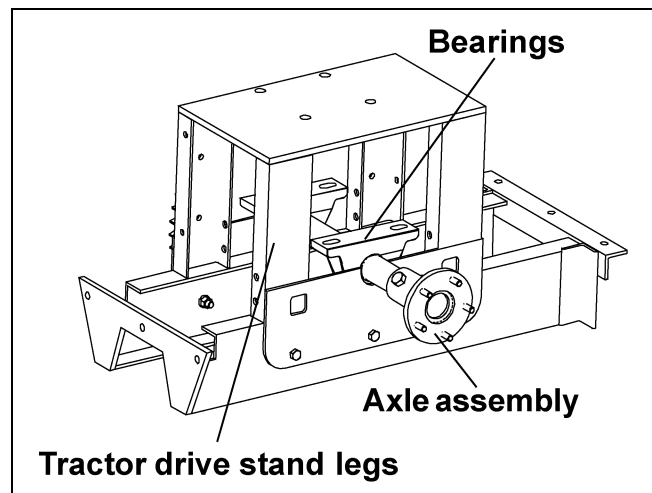

Figure 5R
- C. Slide the axle assembly between the legs of the tractor drive stand as shown in Figure 5R.
- D. Rotate the pillow block bearings until the bases are facing up. (See Figure 5R.)